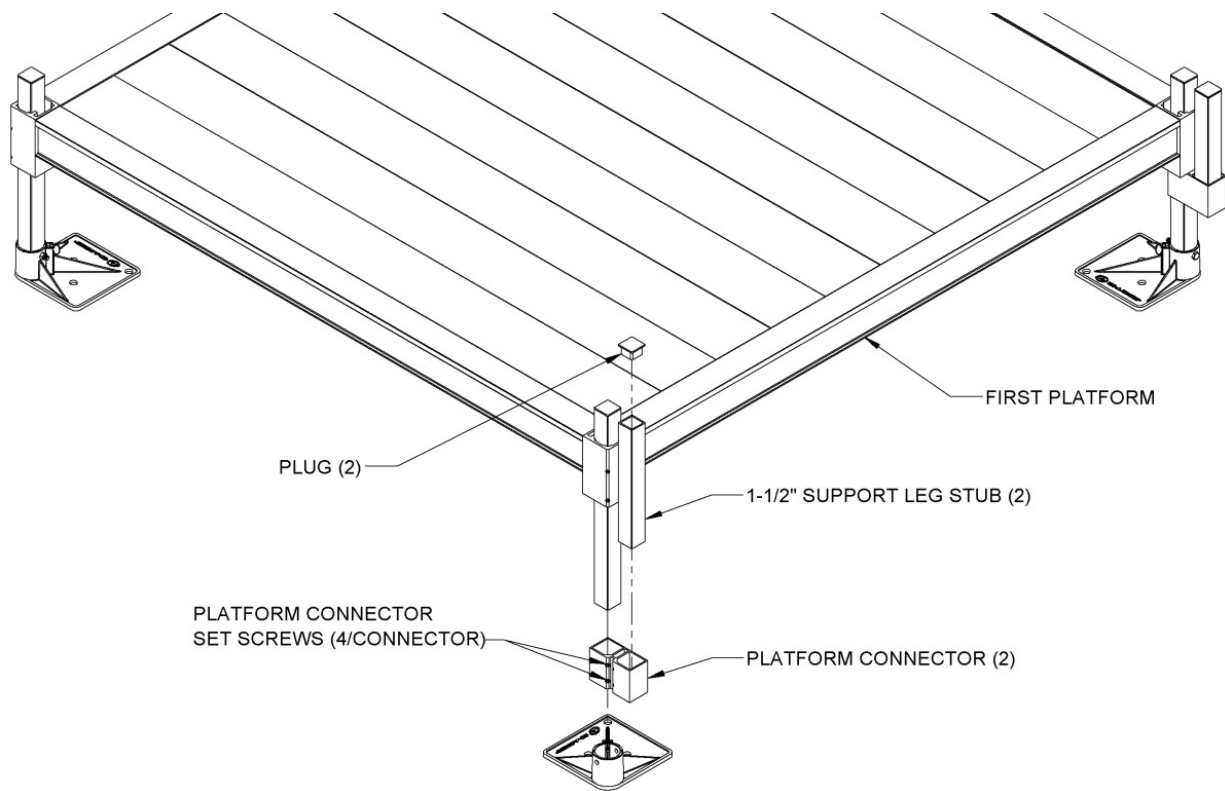

FIG. 2.5
- 2.3.2. Slide platform connectors up until they contact the bottom of the platform (FIG. 2.5), and then tighten set screws securely.